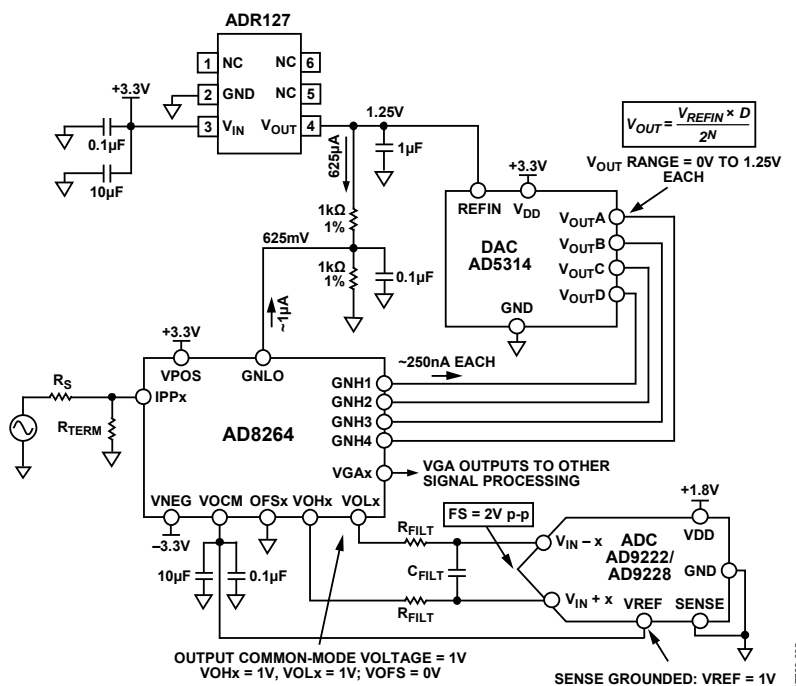

Figure 113. Concept Application of AD8264 with 40-Channel AD5381 12-Bit, 3 V DAC and AD9222/AD9228 12-Bit ADC
The dc connected concept example in Figure 113 is an application with the 40-channel AD5381, 3 V, 12-bit DAC. The main difference between this example and Figure 112 is that, for the same AD127 1.25 V reference, the full-scale output of the DAC is from 0 V to $2 \times V_{REFIN} = 2.5$ V. Two options for gain control include the following:
- Ground GNLO and scale the DAC output so that the GNHx inputs vary from -0.652 V to $+0.625\text{ V}$. Figure 113 shows a possible circuit implementation using a divider between the DAC output and a -1.25 V reference.
Figure 113 shows how the AD8264 is connected in a PET application. The PMT generates a negative-going current pulse that results in a voltage pulse at the preamplifier input and a differential output pulse on VOLx and VOHx.
A convenient method of verifying and customizing the signal chains shown in Figure 112 and Figure 113 is by ordering the corresponding evaluation boards available on www.analog.com. The AD8264-EVALZ is a platform through which the user can quickly become familiar with the features and performance capabilities of the AD8264. See the Evaluation Board section for more information.